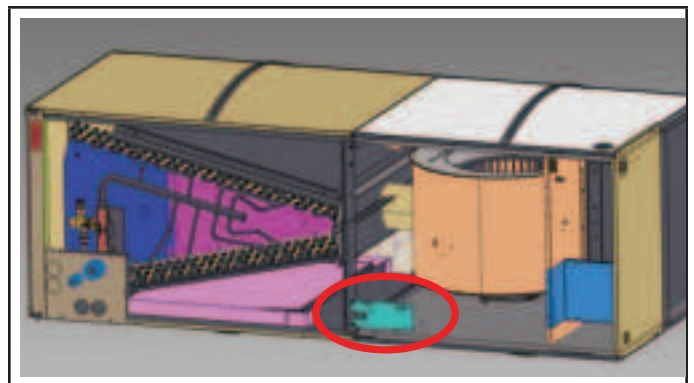

FIGURE 12
- 3 - With air handler unit panels removed, install sensor bracket assembly to the unit by lining up holes in the center support bracket as shown in figure 12. Note: sensor should be facing toward the inside of the unit.